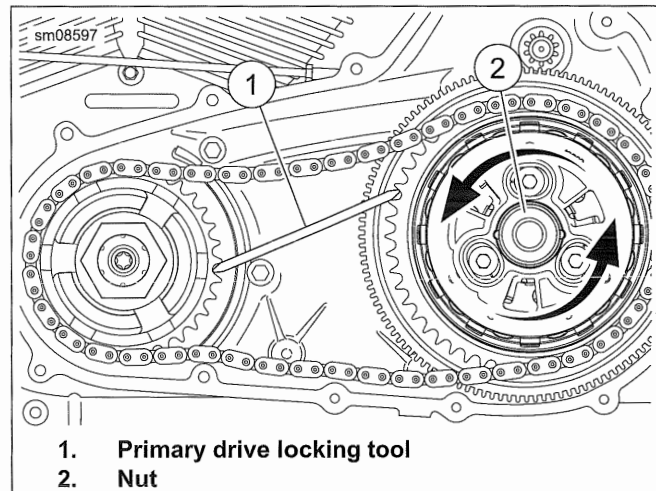
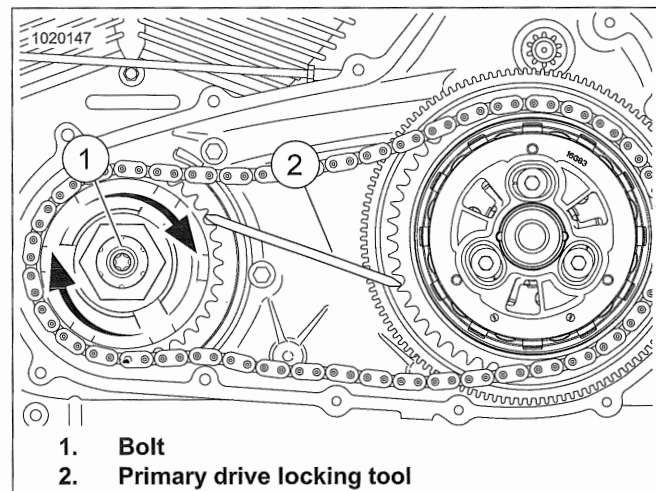

Figure 5-17. Installing Clutch Hub Mainshaft Nut
Figure 5-18. Installing Engine Compensating Sprocket Bolt
3. Lightly lubricate thrust washer (7). Install components (7, 8) and **new** bolt (9). Hand tighten.
4. See Figure 5-17. Install mainshaft nut.
- a. Clean and prime threads of clutch hub mainshaft nut (2).
5. See Figure 5-18. Tighten compensating sprocket bolt.
7. See Figure 5-17. Tighten clutch hub mainshaft nut.